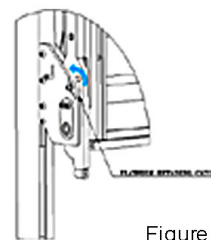

Figure 1
- Disengage the platform retaining catch on the side of the platform (Figure 1) and pull the platform out and down to horizontal. Press down on the outer edge of the platform to automatically engage the anti-tilt latch.